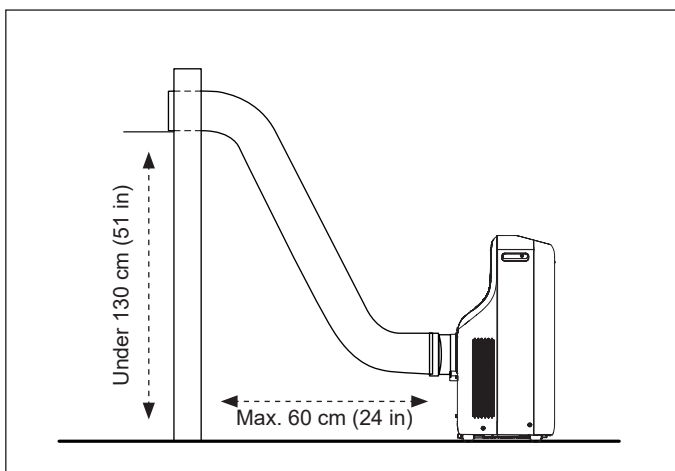

FIGURE 17
**Tip:** To improve the cooling efficiency of your air conditioner, the exhaust hose should be as short and straight as possible. We suggest the configuration shown in Figure 17.